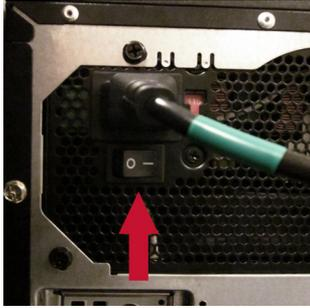

Fig.12
- Plug the other Power Cable into the green marked power port on the back of the computer. (See Fig. 12) Plug the opposite end of the green Power Cable into a standard wall outlet. (Volt Setting: 115V)
- On the back of the computer, ensure the power switch is turned on. (See Fig.12)